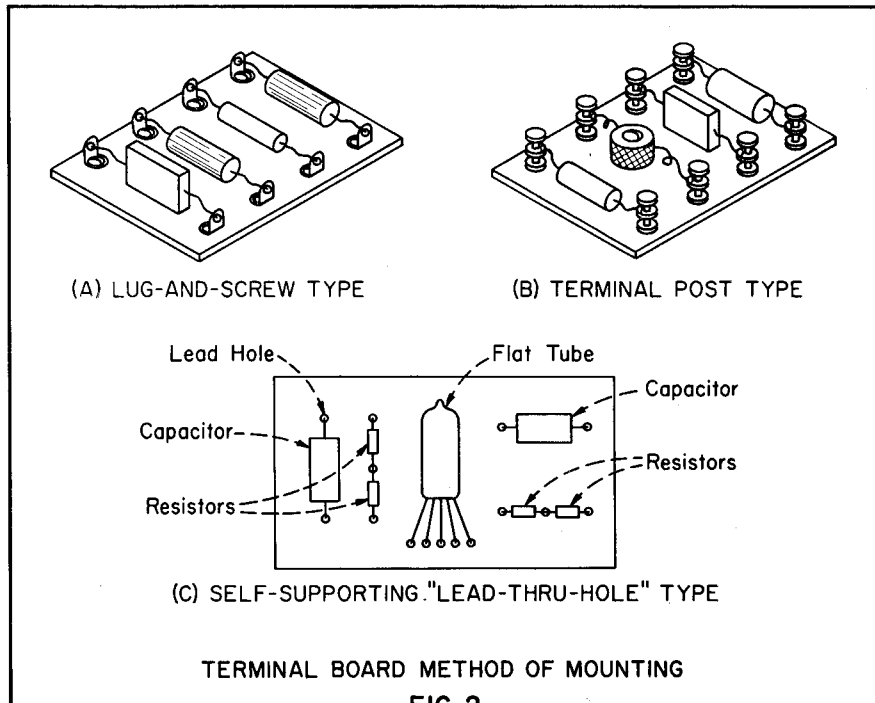

FIG. 2
Figure 2 shows three representative types of terminal boards which can be made easily by the experimenter. Each uses a thin sheet of bakelite or fiber as the board. The first unit (Figure 2A) employs ordinary soldering lugs for terminals, and these are held in place by short machine screws and nuts. The lugs also could be rivetted in place, but most experimenters do not have the tools or machines to do this job.
Figure 2(B) shows a board made up with the popular turret-type pin terminals of the CTC (Cambridge Thermionic) and USES (United States Engineering) types. Advantages of
The board shown in Figure 2(C) eliminates all lugs, pins, and other terminals, substituting pin-holes through which the pigtail leads of the components are passed and drawn tightly. On the other side of the board, the leads may be interconnected, as required by the circuit, or attached to those of other components. This type of construction provides mechanical support for the components, as well as permitting a direct and easy method of wiring the circuit. Elimination of the protruding terminals usually found on a terminal board further reduces the space and weight totals of the assembly. Using the "pin-hole" terminal board, it is possible to build an entire unit of equipment (including several stages) using only the pigtailed of components for mounting and wiring. It is possible at the same time to obtain a tight construction. Single-end-mounted components, such as subminiature tubes, may be tied down by means of strap-clamps or clips.